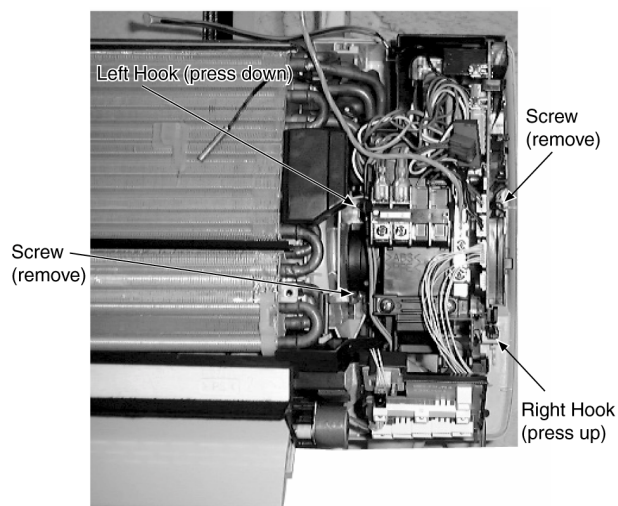

Fig. 3
- Remove the right and left screws. (Fig. 3)
- Then remove the control board by pressing down the hook at the left and press up the right hook. (Fig. 3)